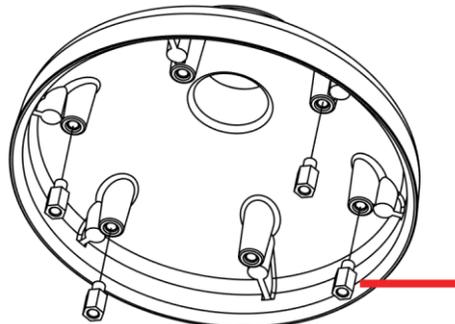

Figure 3
D. Attach the 4 standoffs to the Pendant Cap (Fig 3).